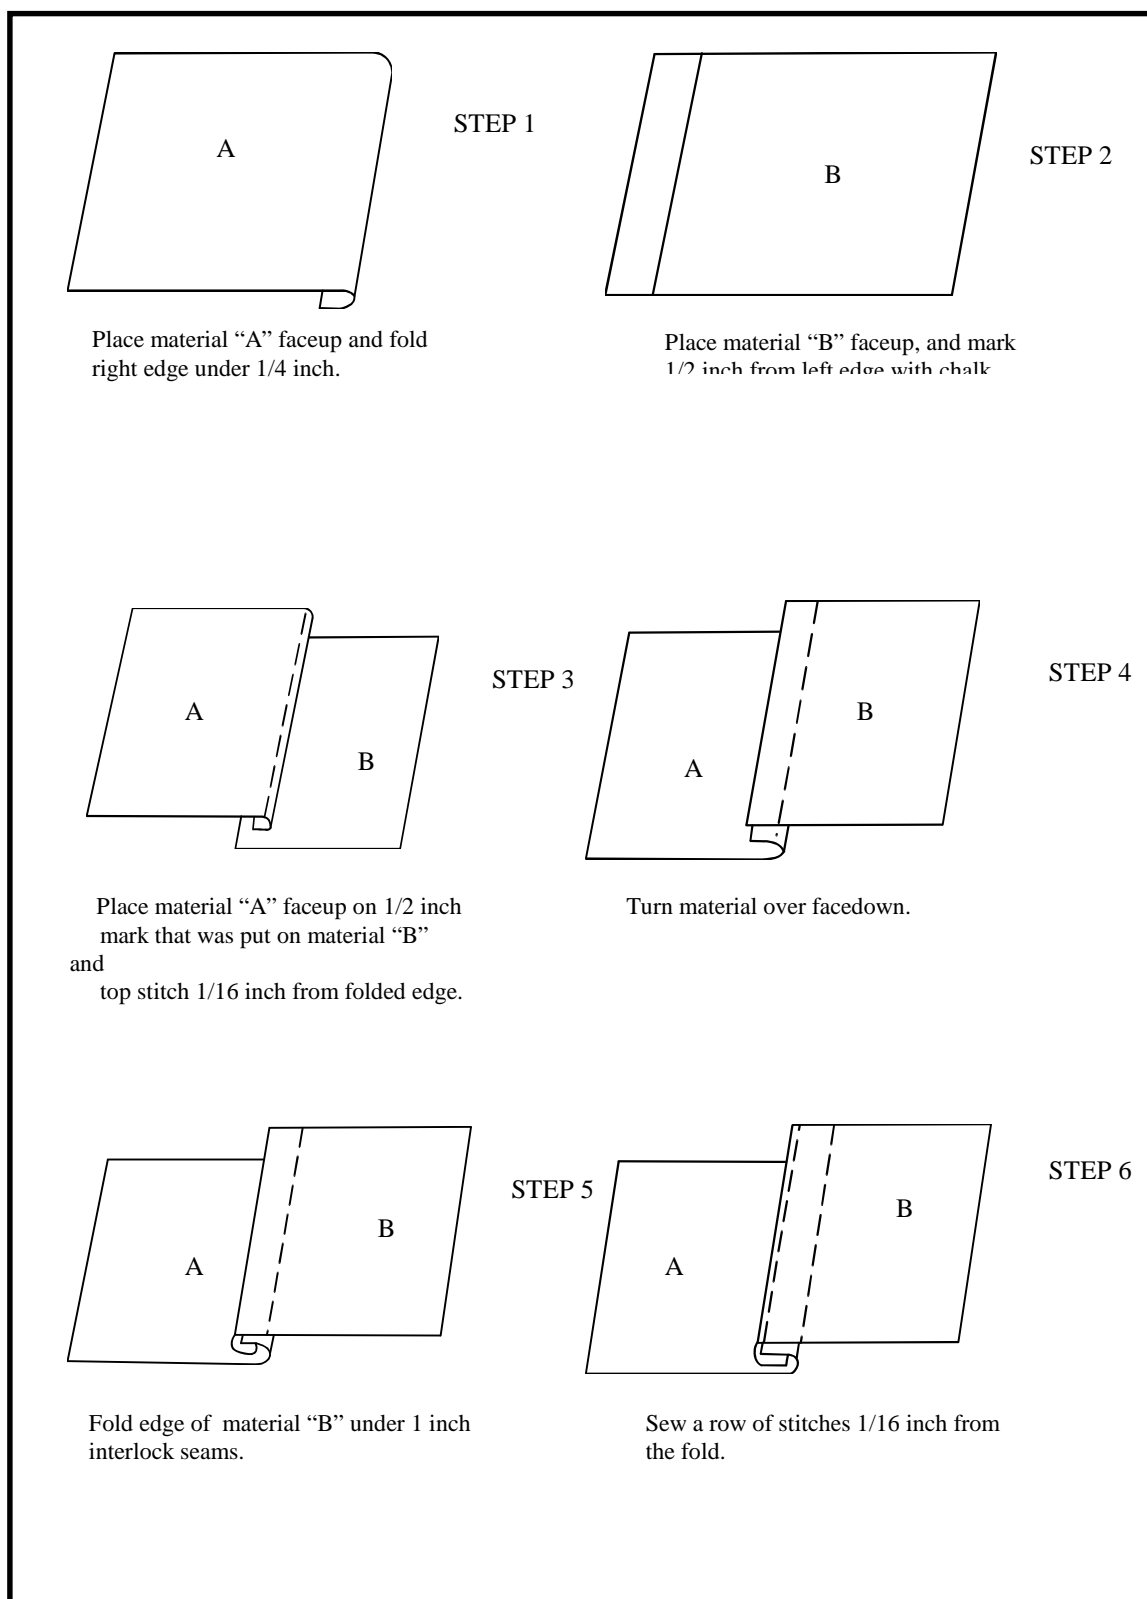

Figure 3-12. Seam type 4
e. Seam Type 4. Seam type 4 (Figure 3-12) is a double-lapped seam. It is an extremely strong seam, because no raw edges are left exposed to unravel and two rows of stitches are used. This seam is used in garments that get a great deal of stress and are washed often. It is used to join the fronts and backs of shirts and field uniforms. When the seam is sewn correctly, it looks the same on the inside and the outside of the garment. To make seam type 4--
- (1) Cut an 8- by 8-inch piece of material into two pieces 4 inches by 8 inches.
- (2) Place the two pieces of the material faceup and side by side.
- (3) Mark the piece of the material on the left, 1/4 inch from the right edge (8- inch length).
(4) Mark the piece of the material on the right,  $\frac{1}{2}$  inch from the left edge (8-inch length).
(5) Fold the material on the left  $\frac{1}{4}$ -inch mark and place it on the  $\frac{1}{2}$ -inch mark of material on the right.
(6) Sew a row of stitches  $\frac{1}{16}$  inch from the folded edge of the top material. Make certain to tack both ends of the seam.
(7) Turn the joined materials over with the back side of the material up.
(8) Mark  $\frac{1}{4}$  inch from the raw edge of the joined seam.
(9) Fold under  $\frac{1}{4}$  inch at mark and stitch  $\frac{1}{16}$  inch from the folded edge across the length of the material.
(10) Tack at both ends of the seam with a 1-inch tack (no less than  $\frac{7}{8}$  inches, or no more than  $1\frac{1}{8}$  inches).